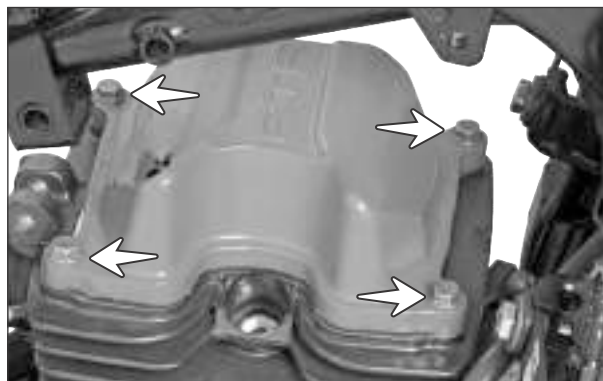

Fig. 2.49
- Remove the hexagonal bolt (M6x25 - 4 nos.) from the mounting of cover cylinder head. (Fig. 2.49)